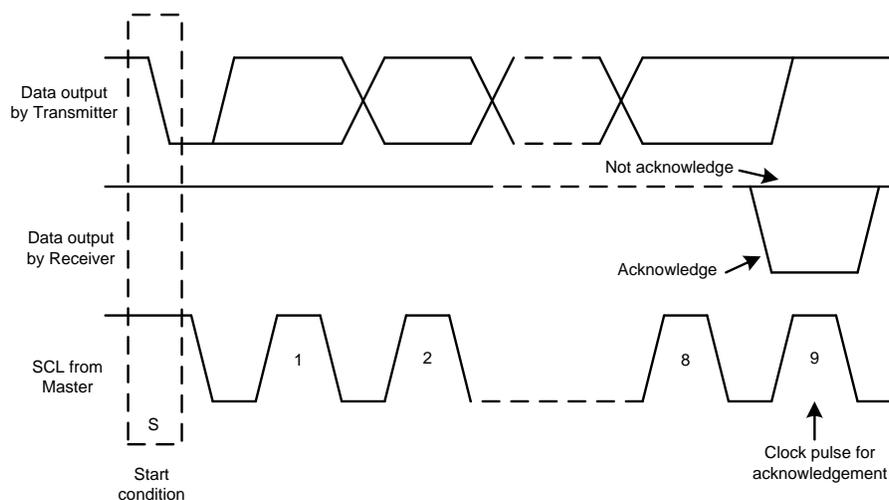
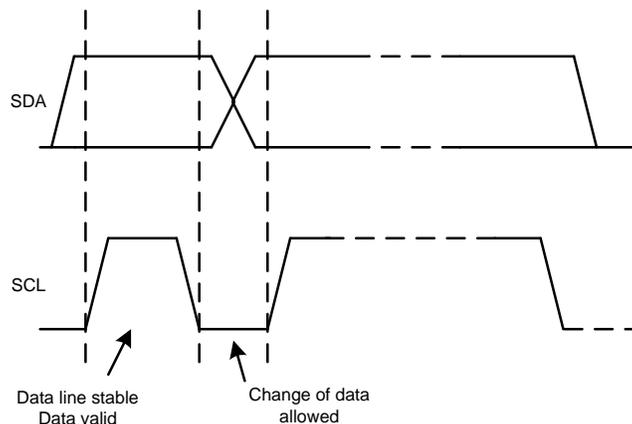

Figure 6. Acknowledge and Not Acknowledge on the I²C Bus
Figure 8. Bit Transfer on the I²C Bus
Other than specific timing signals, the I²C interface works with serial bytes. At the end of each byte, a ninth clock cycle generates and detects an acknowledge signal. Acknowledge is when the SDA line is pulled low during the high period of the ninth clock cycle. A not-acknowledge is when the SDA line is left high during the high period of the ninth clock cycle as shown in Figure 6.
2. The master then generates the SCL pulses, and transmits the 7-bit address and the read/write direction bit (R/W) on the SDA line. During all transmissions, the master makes sure that data are valid. A valid data condition requires the SDA line to be stable during the entire high period of the clock pulse, as shown in Figure 8. All devices recognize the address sent by the master and compare it to their internal fixed addresses. Only the slave device with a matching address generates an acknowledge by pulling the SDA line low during the entire high period of the 9th SCL cycle, as shown in Figure 6 by pulling the SDA line low during the entire high period of the 9th SCL cycle. Upon detecting this acknowledge, the master knows the communication link with a slave has been established.